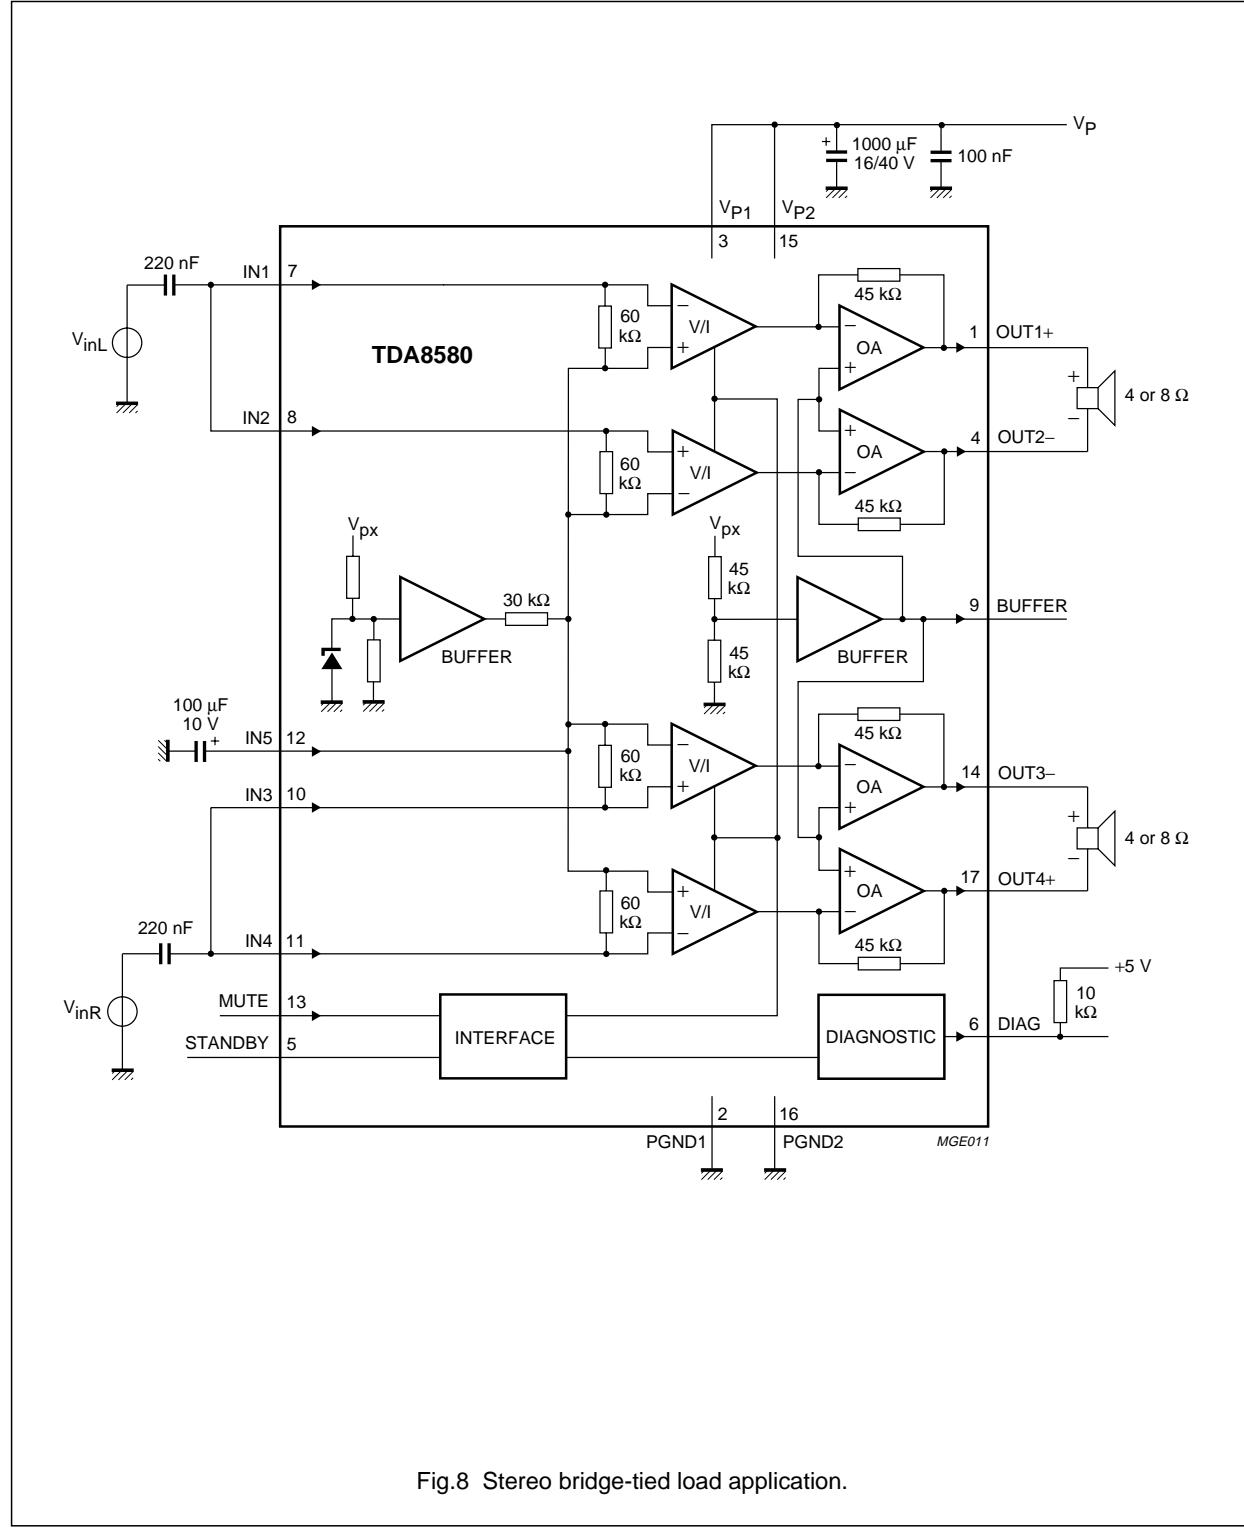

Fig.8 Stereo bridge-tied load application.
**CHARACTERISTICS** $V_P = 14.4$  V;  $T_{\text{amb}} = 25$  °C;  $f_i = 1$  kHz;  $R_L = \infty$ ; measured in test circuit of Fig.8; unless otherwise specified.
Stereo BTL application (see Fig.8)